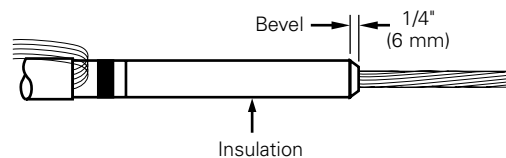

Figure 7. Line illustration of insulation bevel.
- Remove sharp edge of insulation by beveling at a 45° angle for approximately 1/4" (6 mm). (Refer to Figure 7.)